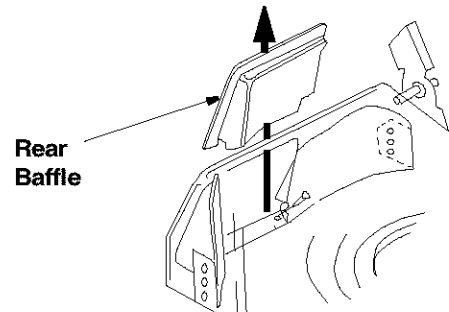

Figure 10
- If your mower is equipped with a rear baffle, and it is in place on the mower, lift the rear discharge door and remove it from the mower. See Figure 10 .